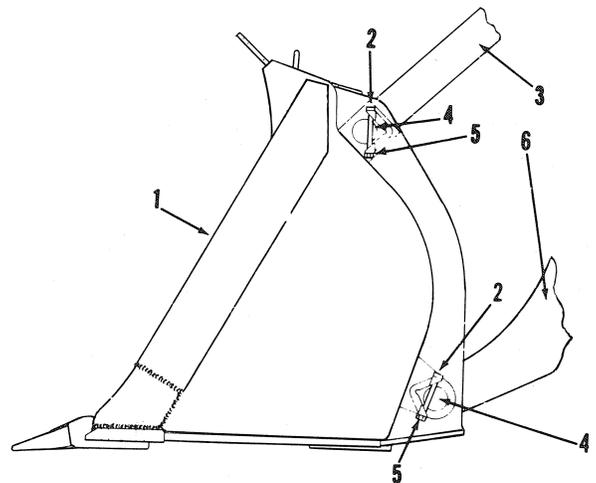

FIG.9 GENERAL PURPOSE BUCKET T-78634
Remove all four bucket pivot pin, retaining capscrew, Fig.9(2) and locknuts (5).